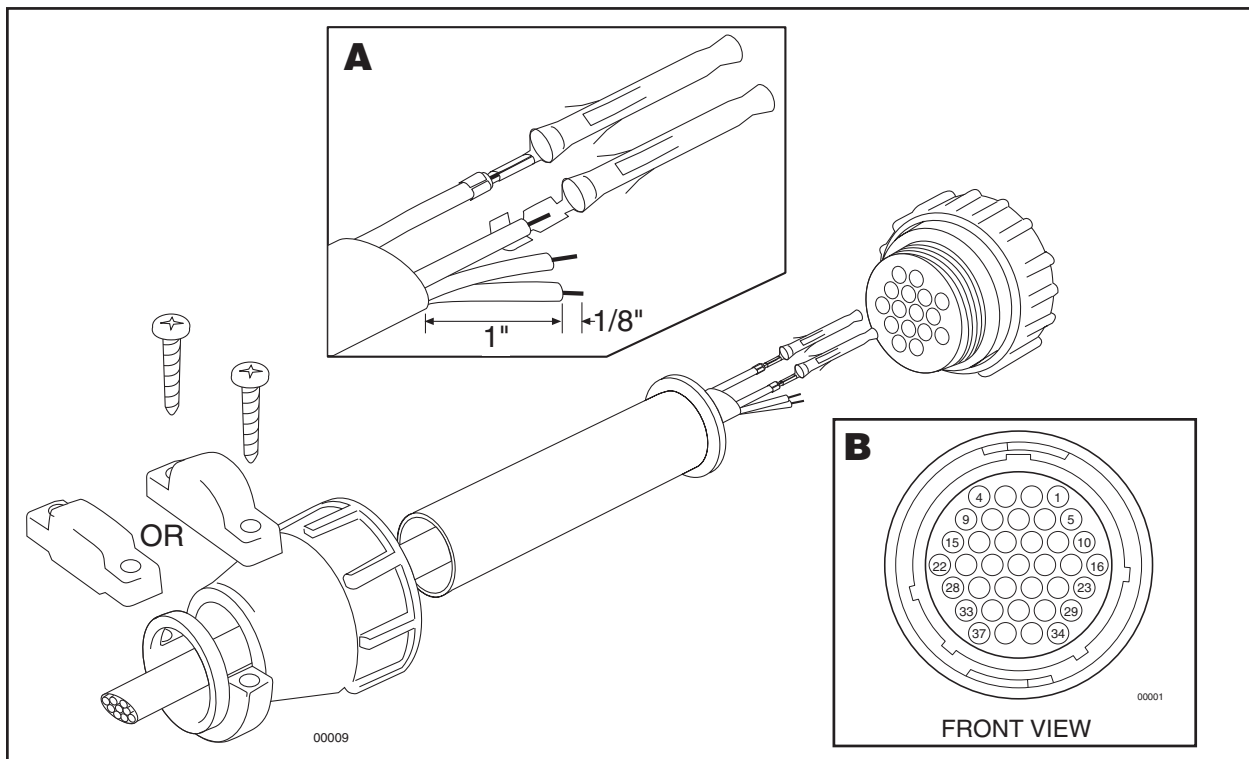

Figure 4. Connector Assembly
If you did not order a pre-assembled connector, assemble the connector parts according to the instructions below. Detail B, below, reflects the pin arrangement specific to CX9500/CX9504 Receivers. Refer to Figure 4 during assembly. For best results use an AMP style crimper when making the wire to pin connection.
- c. Using an AMP style crimper, crimp the wires and their insulation to the connector pins. Refer to Detail A in Figure 4.